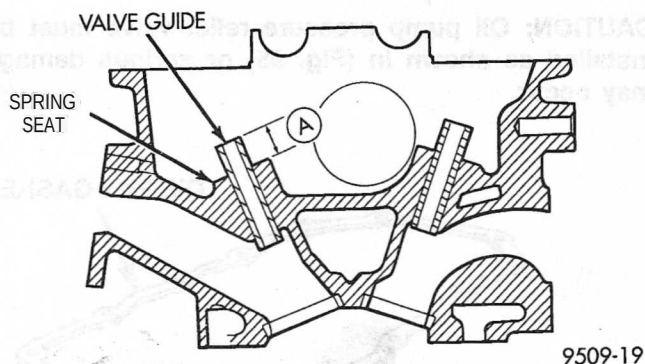

Fig. 98 Valve Guide Height
(3) Check valve guide height (Fig. 98).